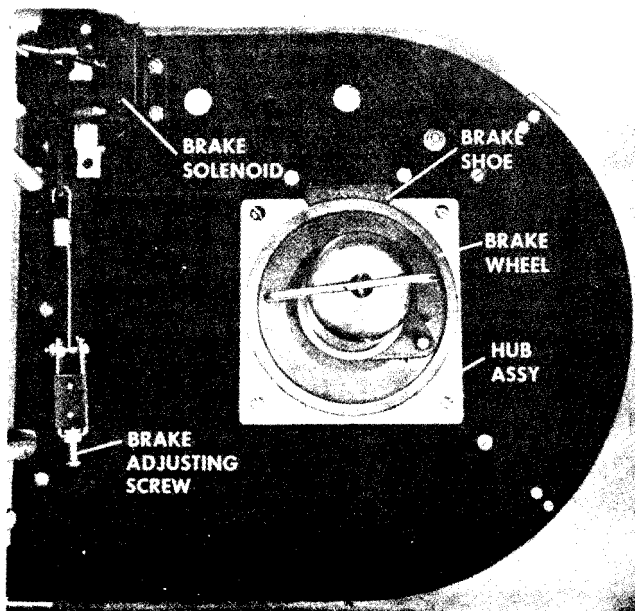

Figure 13. Brake Mechanism
The wire reel mounts and locks on a hub assembly (Fig. 13) which also provides a braking surface (wheel) for the shoe of the drag brake. The operation of the brake is determined by the position of the PUSH-PULL switch. In PUSH position, the brake remains engaged and the brake shoe drags on the brake wheel of the hub to control overrun of wire from the reel. In PULL position, the brake is electrically released when the trigger switch is pulled to eliminate drag so that the reel is free as the wire is pulled by the gun. As soon as the trigger is released, the spring loaded brake re-engages with the brake wheel of the hub to stop wire pay-out.
e. Check brake (Fig. 13) for proper adjustment.
c. Turn the brake adjusting screw (Fig. 13) until brake shoe makes light contact with the wheel.